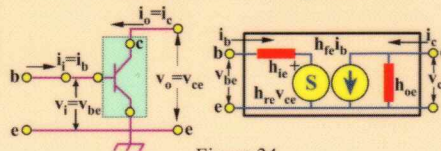

Figure 34
- Common emitter configuration (Fig 34):